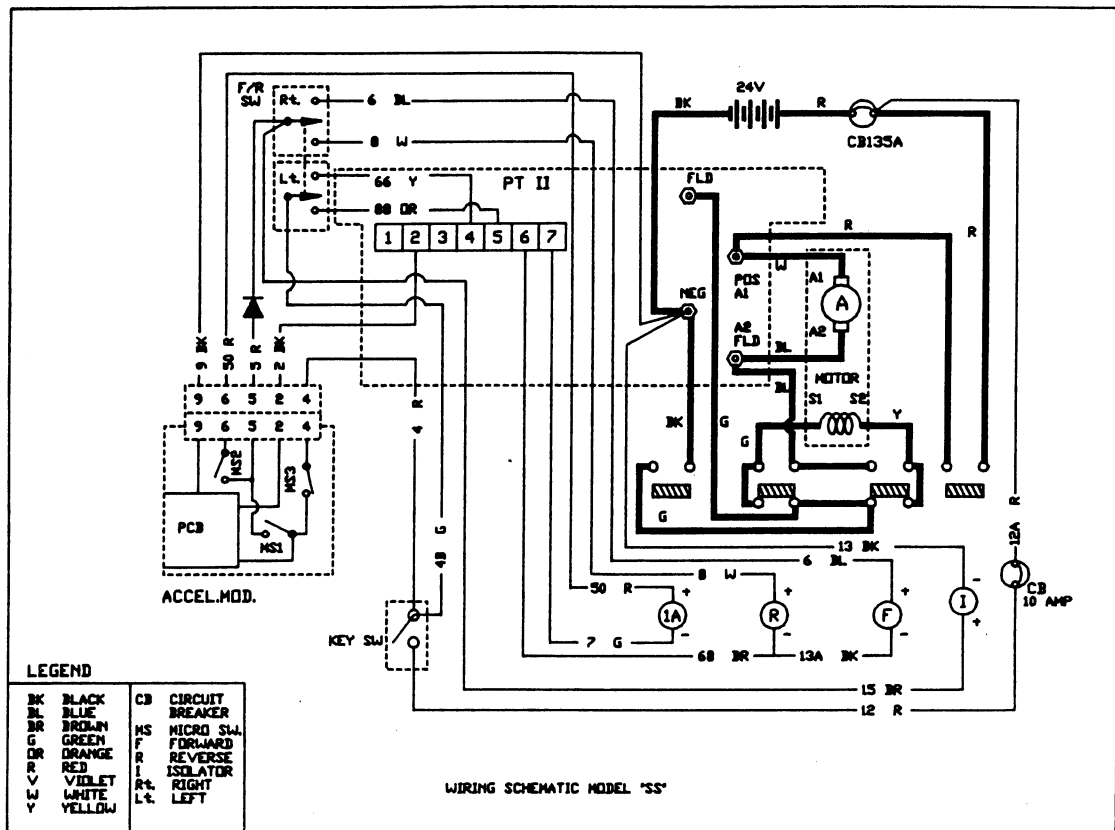

Figure 1
**CONTROL CIRCUIT** (See Figure 1, Shown in light lines) CONTROL HARNESS 75-146-24
**POWER CIRCUIT** (See Figure 1, Shown in Heavy lines) POWER HARNES 75-147-24